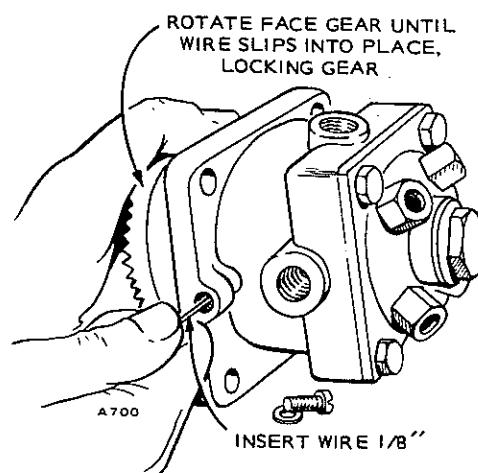

FIGURE 9-12. INJECTION PUMP
2. Turn flywheel to port closing mark (PC) on front cylinder compression stroke.
3. Remove timing hole screw located on pump mounting flange. Insert a 1/8-inch (3.175 mm) diameter wire into hole, Figure 9-12.